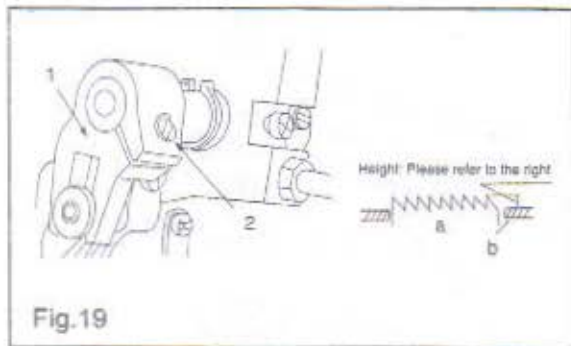

Fig.19
- 1) Loosen screws ② and ③ in feed eccentric cam ① . Move the feed eccentric cam in the direction of the arrow or opposite direction of the arrow, and firmly tighten the screws.
13. HEIGHT OF THE FEED DOG(FIG.19)